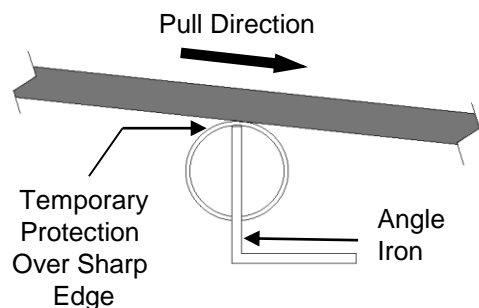

Figure 13
13.6.1 Install some type of hard and rounded temporary protective covering (e.g.: Split Innerduct, a Roller Wheel, a temporary Waterfall or Bridge product, etc.) over all sharp points if there is any chance the tube cable will come in contact with them. **See Fig. 13.**